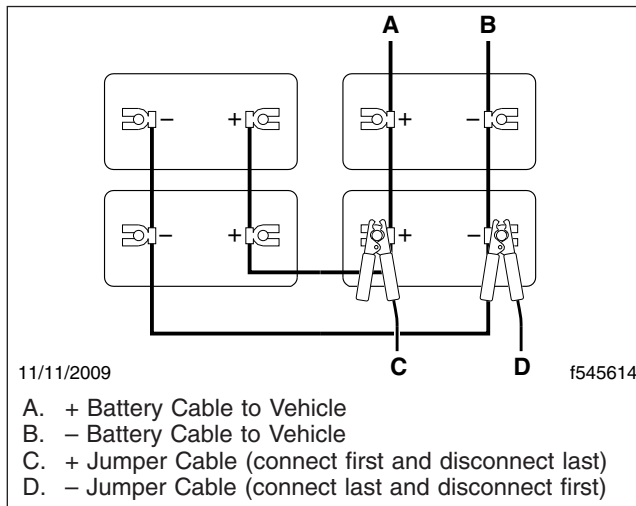

Fig. 23.2, Jumper Connections
3. Connect the positive (+) jumper cable to the positive battery post on the vehicle needing the jump start, then connect the other end of the positive jumper cable to the positive battery or jump start post of the vehicle providing the jump. See **Fig. 23.2**.